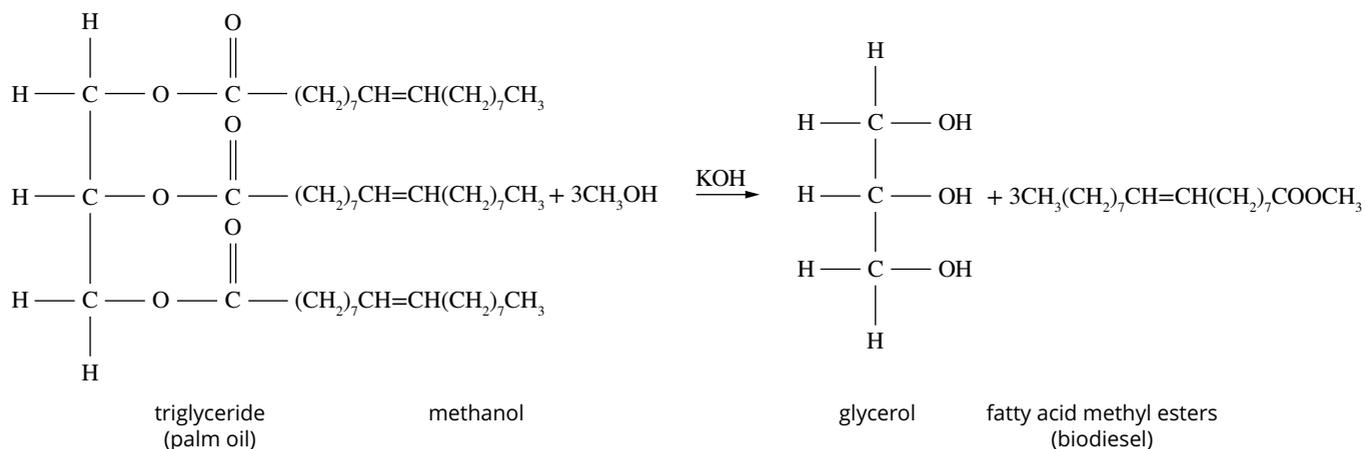

FIGURE 11.3.19 The reaction of a triglyceride with methanol and a KOH catalyst to form fatty acid methyl esters (biodiesel) and glycerol
In the transesterification reaction in which biodiesel is produced, the triglyceride is converted, in the presence of a catalyst, such as potassium hydroxide, into a small molecule called glycerol and three ester molecules with long carbon chains. The ester molecules are the biodiesel product. The reaction is shown in Figure 11.3.19.
- 7 Use semi-structural formulas to write the balanced equation for the transesterification, with methanol and potassium hydroxide as a catalyst, of a triglyceride made from lauric acid ($\text{CH}_3(\text{CH}_2)_{10}\text{COOH}$). The formula of the triglyceride will be similar to the one shown in Figure 11.3.19.